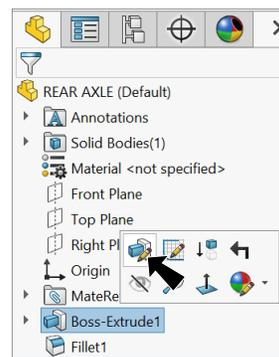

Fig. 16
Step 1. Click **Boss-Extrude1**  in the Feature Manager and click **Edit Feature**  in the context toolbar, **Fig. 16**.